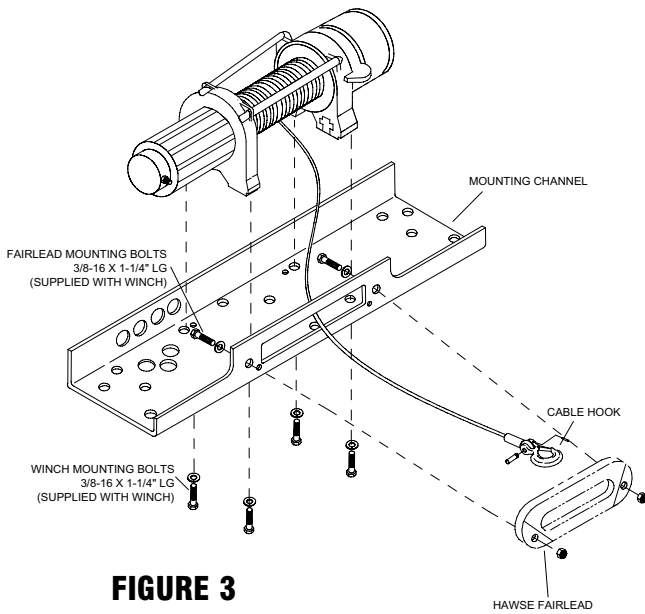
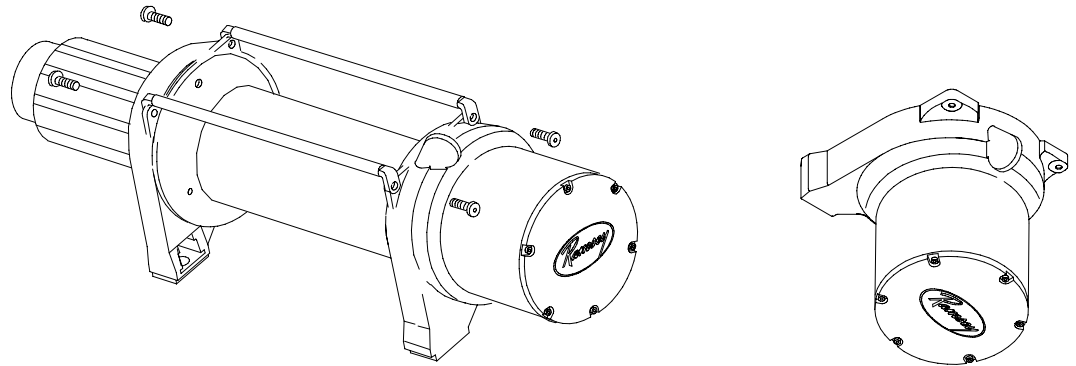

FIGURE 3
Figure 4
Attach fairlead to channel using hardware furnished with winch (see FIGURE 3) before mounting winch in channel. Place (4) flat washers and nuts into pockets of winch mounting feet and thread capscrews with lock washers through mounting holes in channel and into hardware in winch feet.
Place end of drum cable through fairlead and attach cable hook. Use clevis pin and cotter pin (see FIGURE 3).
1. Position winch as shown in Figure 4. Remove screws from tiebars. You may be able to loosen the screws at the motor end without removing them. Pull the Gear Housing assembly from the drum and shaft and set it down on the work bench with the Gear Housing Cover up. Remove the drum bushing from the Gear Housing assembly or the end of the drum. Set aside.
2. Remove (6) capscrews from the Gear Housing Cover. Holding the Gear Housing Cover over the Gear Housing assembly, flip it over and set it on the workbench.
8. Reassemble Gear Housing as shown in Figure 3. Make sure locking ring is positioned with stop post at marked location. The capscrews (item #38) for the retainer should be tightened to 40-45 in-lbs. **Do not over-tighten.**
9. Place Gear Housing over the stacked gears, etc. that you removed in step 3. Gently work the housing over the stack, turning it as needed to mesh the planetary gears with the ring gear in the housing. Once they are all in the housing, flip the assembly over. Align the Gear Housing Cover and gasket with the holes in the ring gear. Replace the (6) capscrews that hold the Gear Housing Cover onto the Gear Housing. Tighten securely.
11. Turn the Gear Housing over and set it on the work bench with the Gear Housing Cover down. See Figure 4.